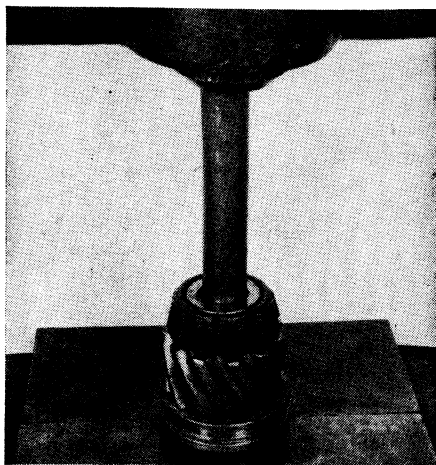

Fig. 21 Pressing cross shaft from slow speed pinion and bearing
28. Replace shift collar and press cross shaft from slow speed spur pinion and bearing, Fig. 21. On some assemblies, a snap ring is used on the slow speed spur pinion. Where used, it should remain intact with the pinion or transferred to the new pinion if the gears are to be replaced.